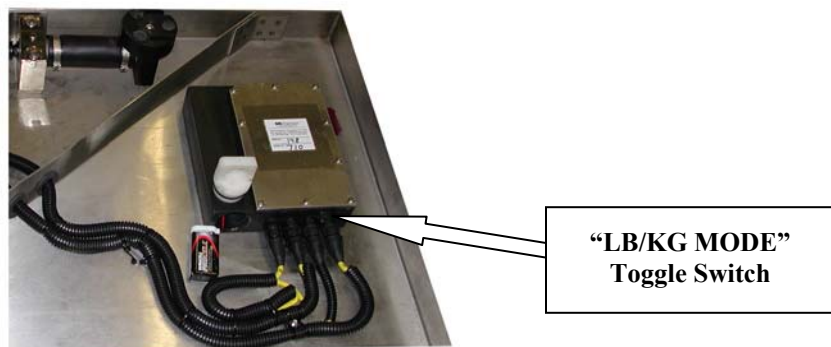

Figure 4: LB/KG Mode Toggle Switch
The “**LB/KG MODE**” Toggle Switch (Figure 4) allows weight data to be viewed in either pounds or kilograms, displayed in a resolution of 0.1 pounds or 0.1 kilograms.
STEP 1: Turn Scale over and remove the ten (10) screws from the display box cover pictured in Figure 4.